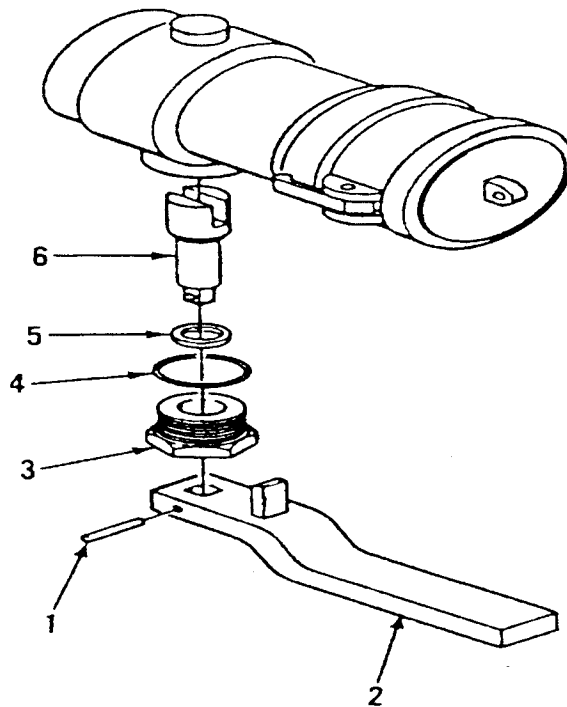

Figure 4-19 Dry Disconnect Coupling
- (1) Remove drive pin (1) and lever (2). See Figure 4-19.
- (2) Remove stuffing box (3), packing (4), packing (5), and stem (6).